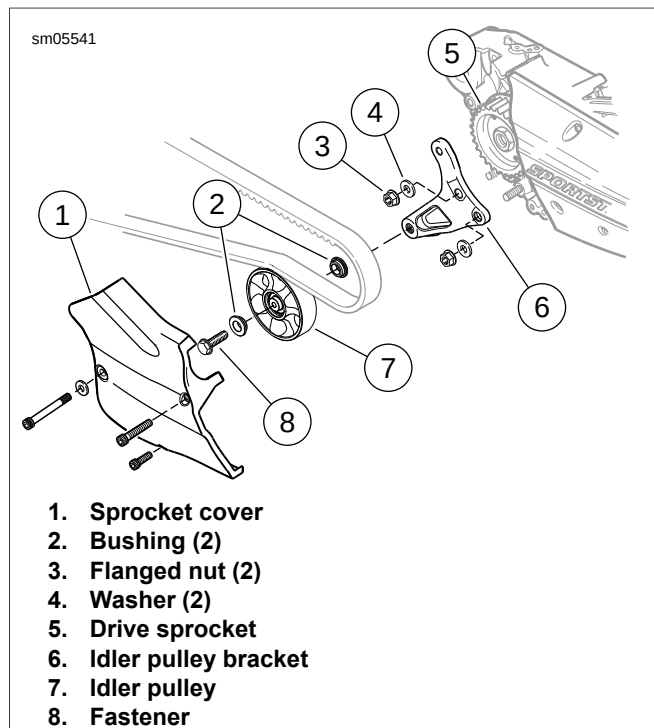

Figure 5-40. Drive Belt Idler: XR 1200X
1. See Figure 5-40. Remove sprocket cover (1).
1. See Figure 5-40. Install **new** or existing idler pulley (7), if removed. Tighten fastener (8) to 70-80 ft-lbs (95-109 Nm).
2. Install idler pulley and bracket assembly. Install washers (4) and flanged nuts (3). Tighten to 33-35 ft-lbs (44.7-47.5 Nm).